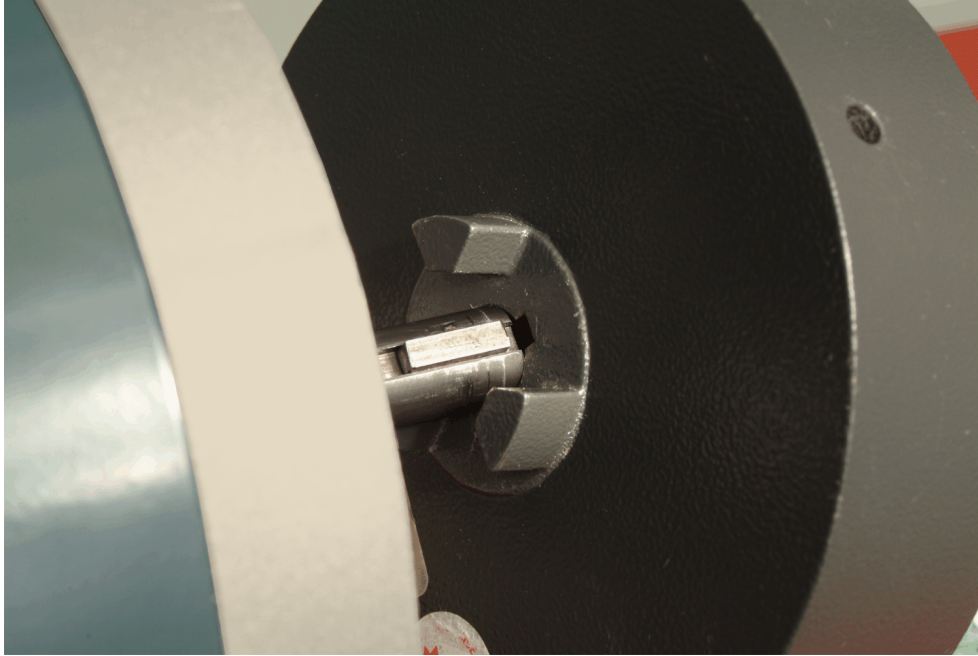

Figure E-2. Align the Inertia Wheel keyway with the key.
- Slide the Inertia Wheel over the Brake Motor shaft taking care of aligning the Inertia Wheel keyway with the key (see Figure E-2).